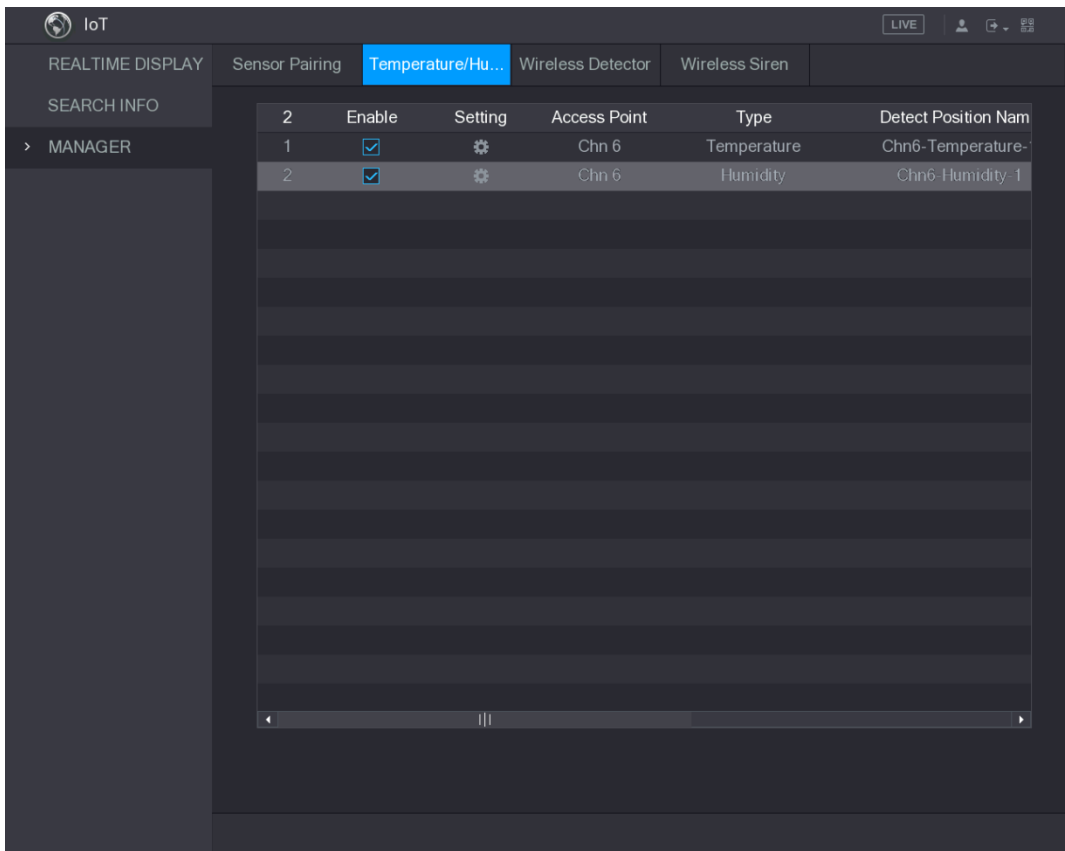

Figure 5-172
**Step 2** Select the **Enable** check boxes to enable IoT function. See Figure 5-172.